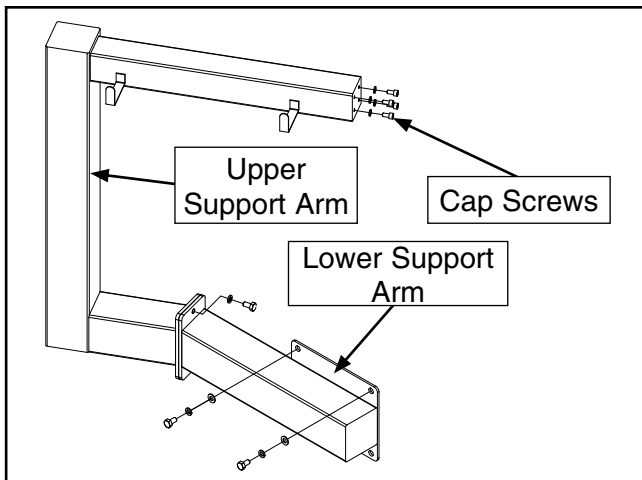
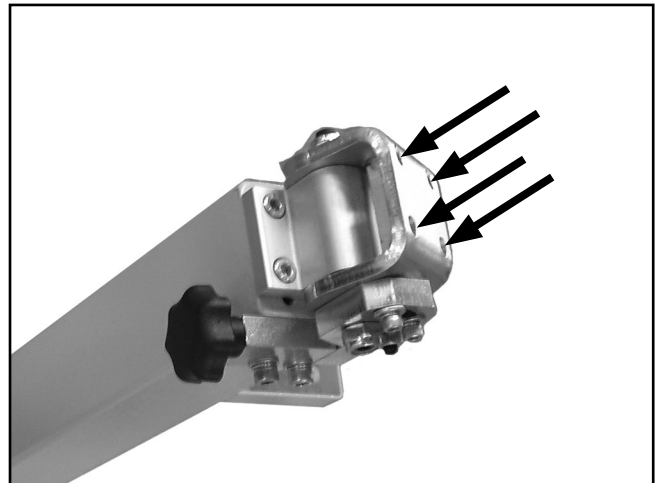

Figure 1. Support arms.
Figure 2. Holes for securing the swing arm.
2. Position the lower support arm (**Figure 1**) over the holes in the motor cabinet and secure the arm with the bolts and lock washers removed in **Step 1**.
5. Remove the cap screws in the end of the upper support arm (**Figure 1**), thread them through the holes in the swing arm (**Figure 2**), and secure the swing arm to the upper support.